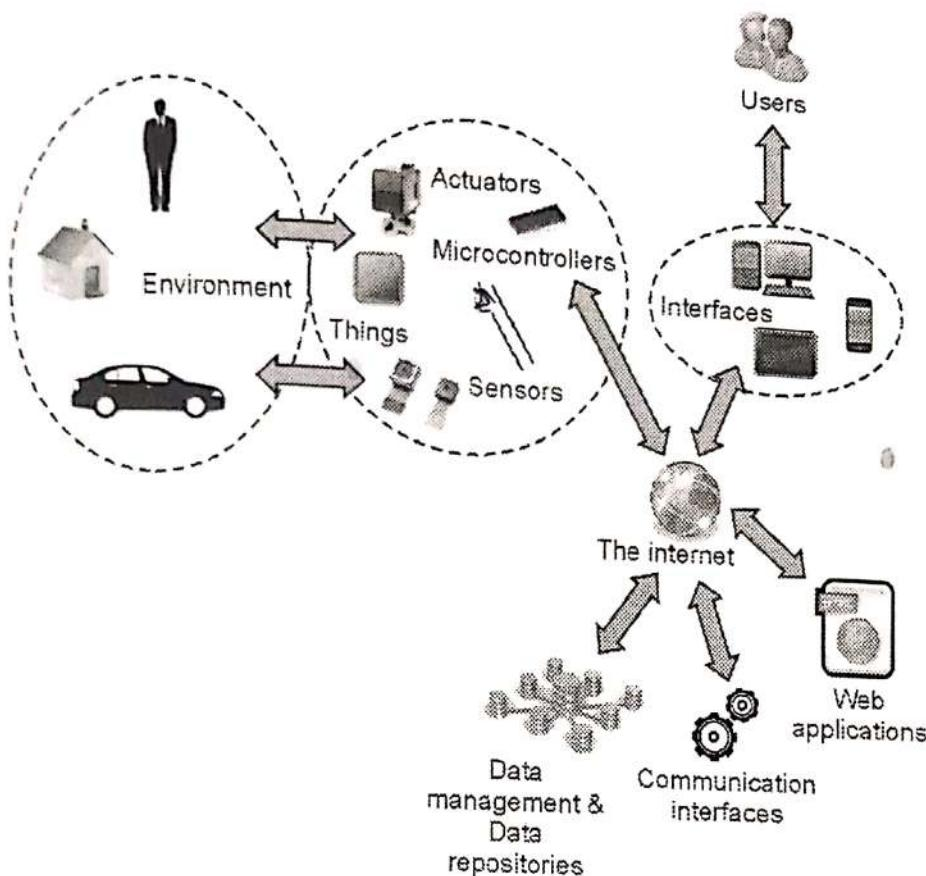

Fig. 1.1.2 : Working of IoT
- Fig 1.1.2 shows working of IoT.